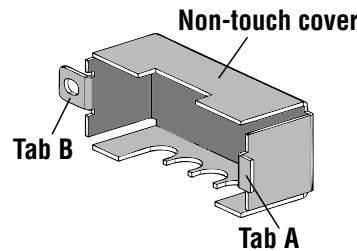

Figure 4.2 Interior of Non-Touch Cover
2. The cover has two tabs A and B (Figure 4.2). Insert tab A into the slot just to the left of the output terminals (Figure 4.3).